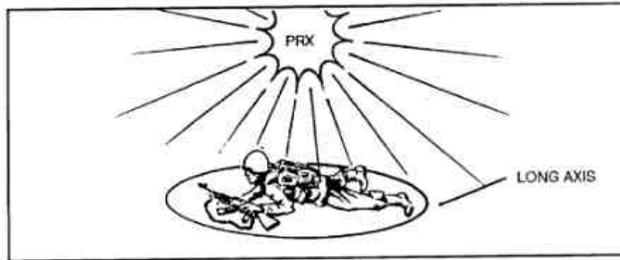

Figure B-7. Prone targets.
b. If exposed enemy troops are lying prone, the PRX fuze setting is most effective. The rounds explode high above the ground, and the fragments coming downward are once again traveling perpendicular to the long axis of the targets (Figure B-7).